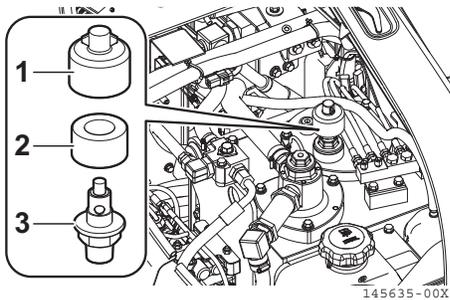

Fig. 8-65
2. Turn the knob (**Fig. 8-65, 1**) on the breather filter cover counterclockwise, and remove the breather filter cover (**Fig. 8-65, 2**).
3. Replace the breather filter element (**Fig. 8-65, 3**) with a new one.
4. Reinstall the filter cover (**Fig. 8-65, 2**), and fix it by turning the knob (**Fig. 8-65, 1**) clockwise.